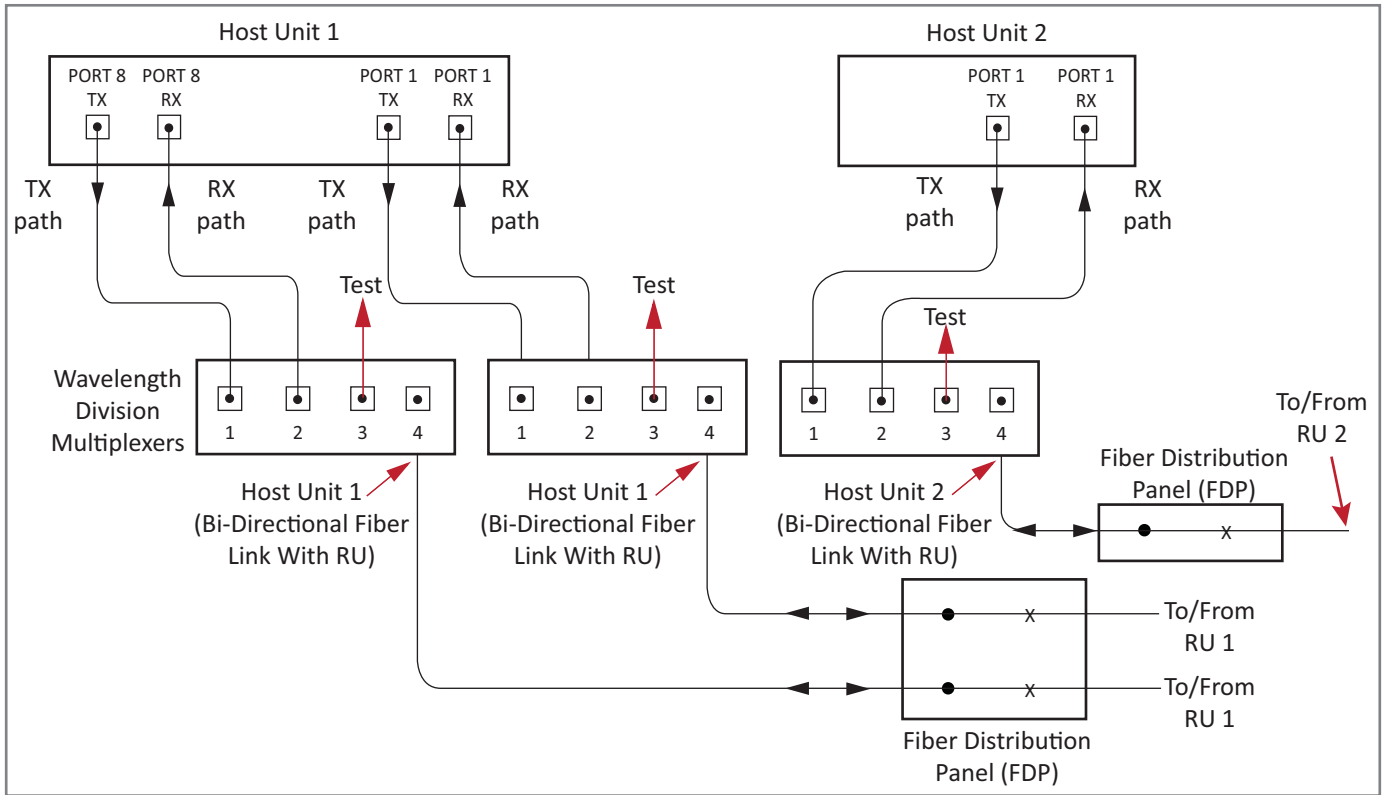

Figure 12. Fiber-Optic Connections the WDM Module in a FlexWave System
- For a Prism-only system, see Figure 12 on page 61